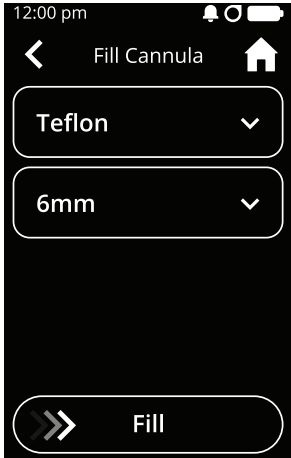

Figure 69
- c. Select the type and length of your infusion set cannula. Refer to the manufacturer’s instructions to find this information. Drag the **Fill** slider to the right (see Figure 69).